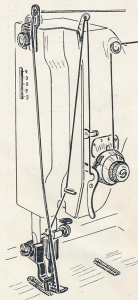

Fig. 30
- 2) a plate (F) to be placed on the front plate for passing the reinforce thread (see Fig. 30);
The device is placed on the shut presser bar as in Fig. 30 and it needs to be "opened". That is, in the normal position as in Fig. 29, lever L (Fig. 29) must be raised so that the interior socket of the guide runs till it hits the lever itself (as is the direction of the hands of the watch, so as to displace "I" against the wall of the upper scale.
The said reinforce thread comes from a bobbin placed on the back bobbin beamer and before entering in C it must pass in the thread guiding hole of the small plate F (fig. 30) fixed by a button on the front plate.